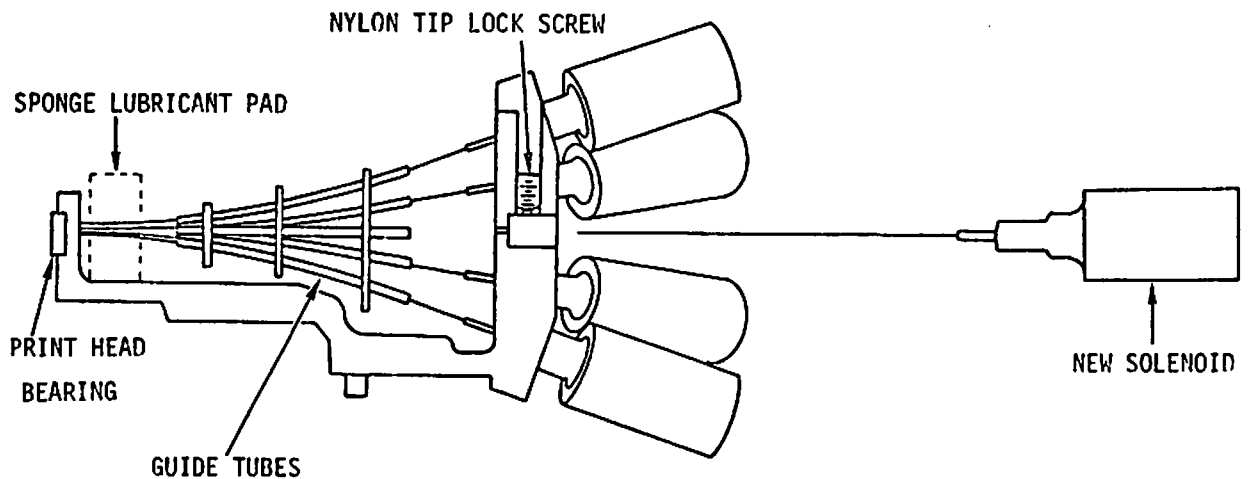

FIGURE 5-10 REMOVAL & REPLACEMENT OF SOLENOIDS
- 4) Loosen desired lock set screw and unscrew solenoid from head casting (Figure 5-10).